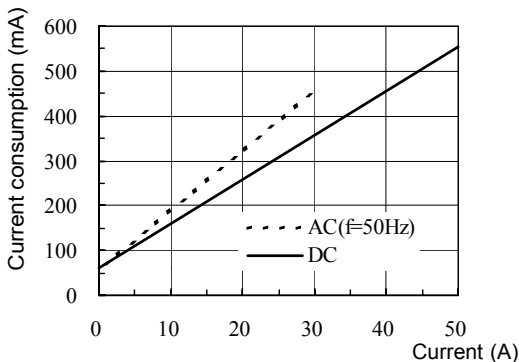

Fig.1
- (1) Check that the system is safe, and that the preparations described in the preceding section have been carried out.
- (2) Pull the sensor opening lever, so that the sensor head opens.
- (3) Align the sensor so that the current direction indication corresponds to the direction of current flow through the conductor to be measured, and clamp so that the conductor is in the center of the sensor aperture.
- (4) Press the opening lever on the sensor head until the "UNLOCK" indication disappears, and check that the opening lever is firmly locked and the sensor head securely closed.
- (5) It is now possible to monitor the current waveform. The output rate of the 3273-50 is 0.1 V/A. The current sensitivity can be derived from the voltage sensitivity of the waveform measurement instrument. For example, if the voltage sensitivity is 10 mV/division, the current sensitivity is 100 mA/division.
- The current consumption of clamp-on probes depends on the current to be measured. Confirm that the total current consumption of the clamp-on probes does not exceed the rated output current of the 3272. See Fig. 1.